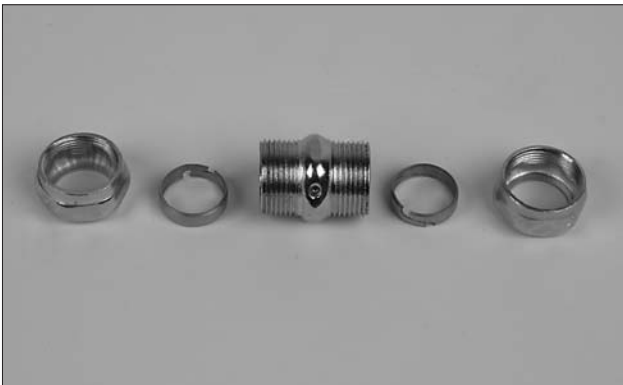

Figure 4-67.
1. Remove rings from both ends of compression union. See **Figure 4-67**.